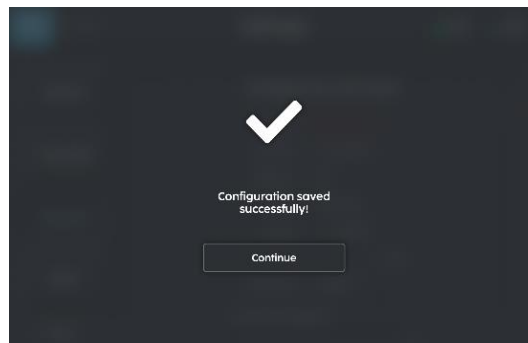

FIGURE 6-9
2. A "Configuration saved "successfully" message will pop out (Fig. 6-9).